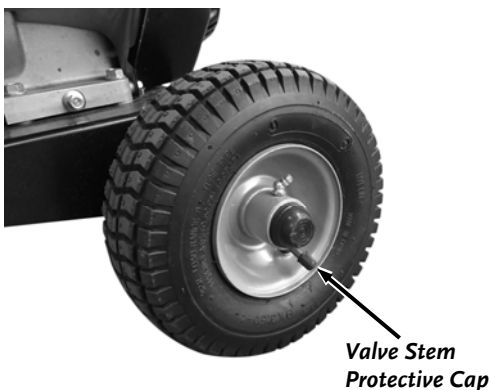

Figure 12
1. Remove the Valve Stem Protective Cap (**Figure 12**) and check the Tire pressure with a Tire Pressure Gauge.